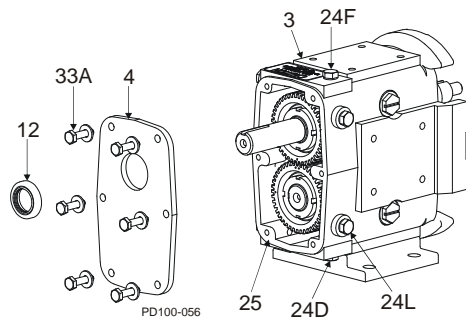

Figure 38 - Remove Gear Case Cover
1. Remove the oil drain plug (Figure 38, item 24D); drain the oil.
2. Remove the cap screws from the gear case (item 33A).
3. Pull the cover (item 4) off the shaft extension. If the cover sticks, use a soft hammer to loosen it.
4. Remove the silicone sealant (item 25) from the gear case and cover.
5. Using an arbor press, remove the oil seal (item 12) from the cover. Discard the used oil seal.